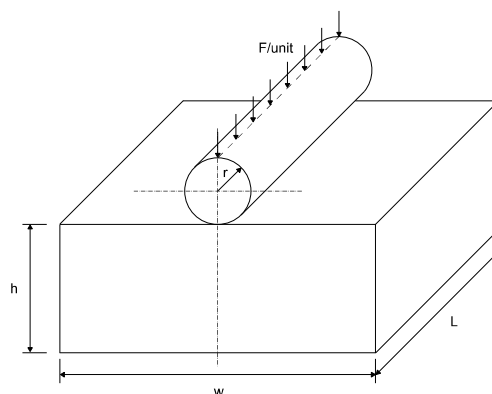

Figure 4
2. A steel cylindrical roller of radius r and length L is pressed on a flat block of regular cross-section of the same material of depth h , width w and length L , by a vertical line load of magnitude F per unit length as shown in Figure 4. You wish to determine the stress distribution in the block under the cylinder. (L is long and the loading is in-plane)